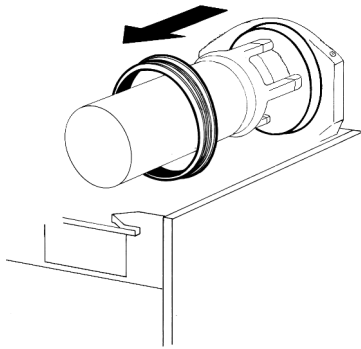

figure 10
- 4 - Remove the bowl gasket from its seat (see figure 10).